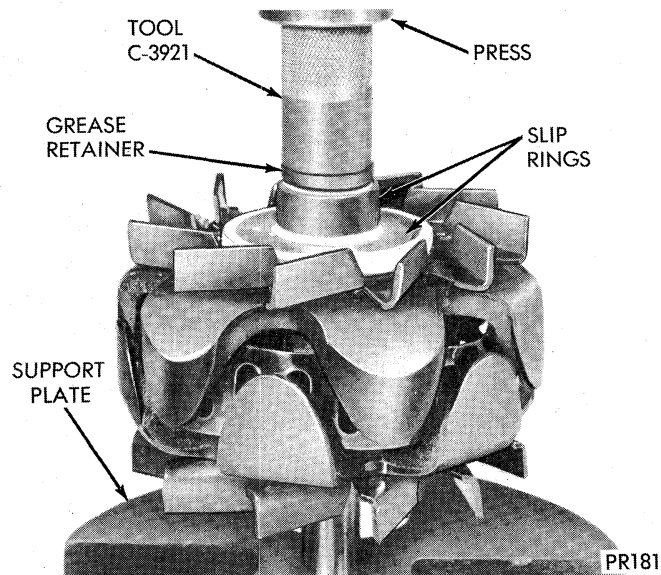

Fig. 28—Installing Grease Retainer
(1) Position grease retainer on rotor shaft and press retainer on shaft with installer Tool C-3921 (Fig. 28). The plastic retainer is properly positioned when the inner bore of the installer tool bottoms on the rotor shaft.